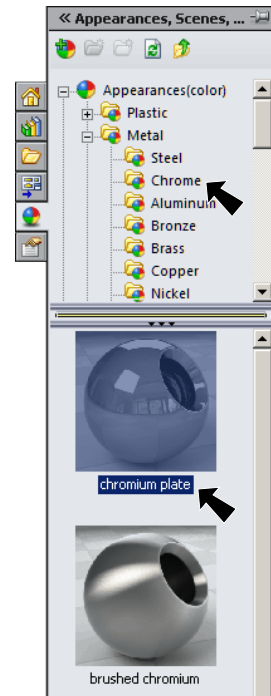

Fig. 19
Step 2. In the Appearances Task pane, expand **Metal**, click **Chrome** and in the lower pane select **chromium plate**, Fig. 19. Click OK  in the Property Manager.